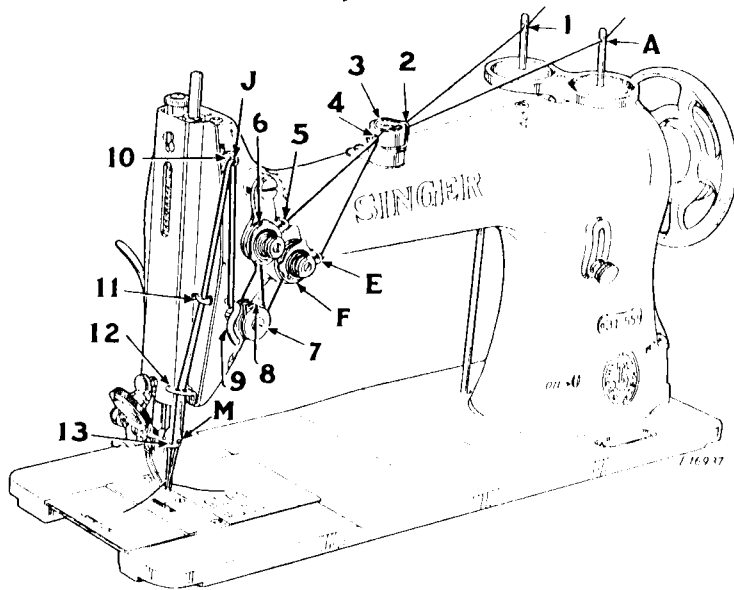

Fig. 6. Upper Threading
Pass the thread through the holes (1 and A, Fig. 6) in the pins on top of the machine, through the slot (2) in the oil cup, under the